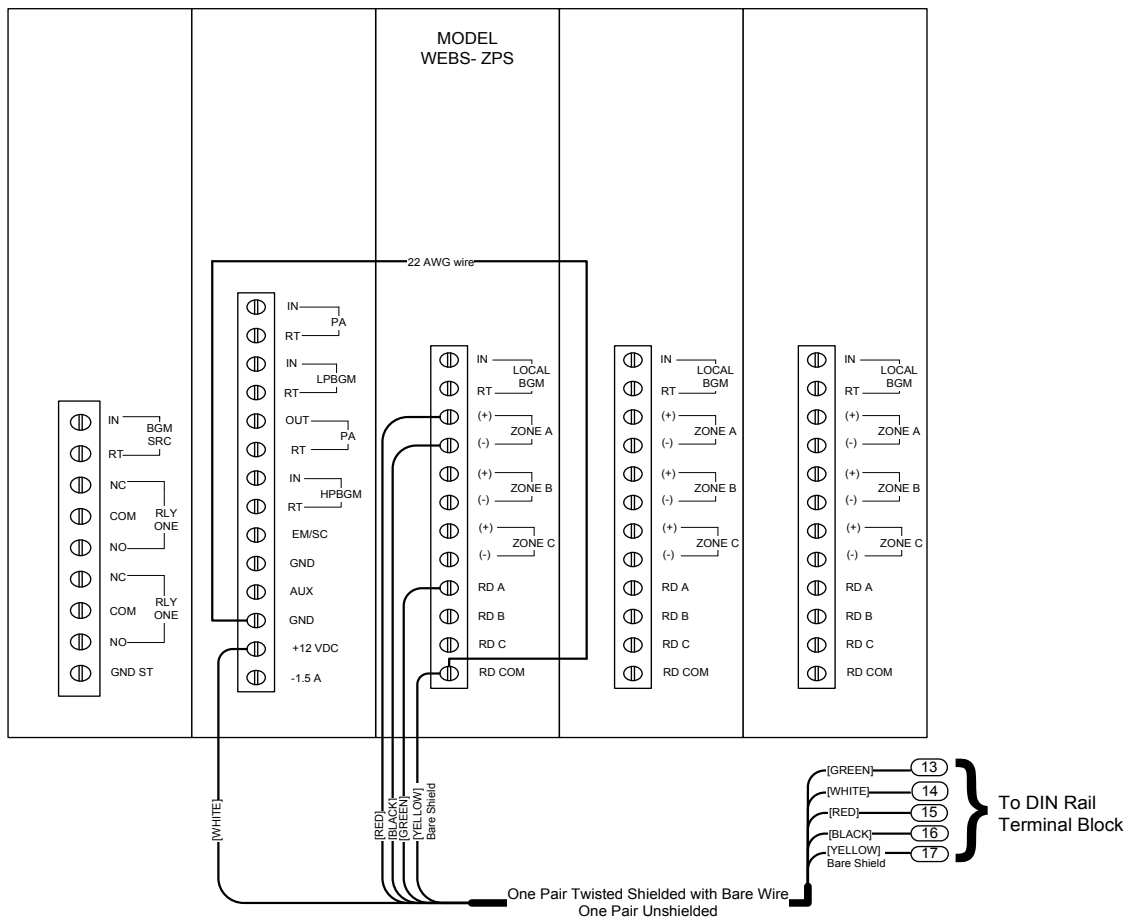

Figure 7. WEBS-ZPS and DIN Rail Terminal Block Connectivity Layout
- When using the **WEBS-ZPS** make connections to the DIN Rail Terminal Block as shown in **Figure 7**.